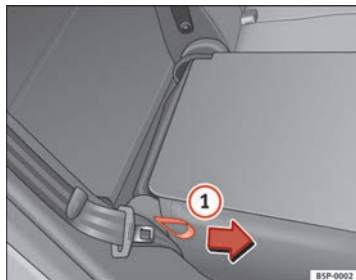

Fig. 98 Folding or opening the rear seat backrests
- Pull the loop on the side of the seat ⇒ fig. 98 ①